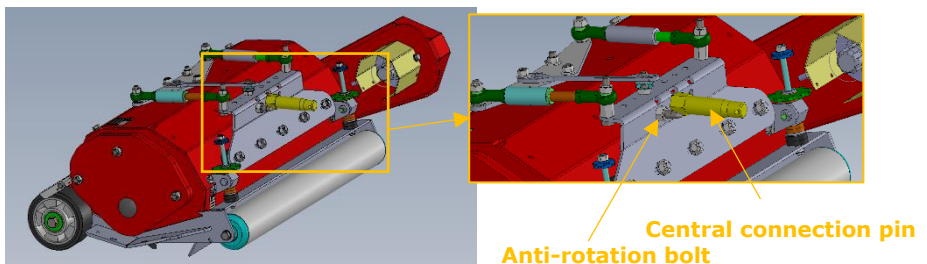

Figure 2: ST head connection.
5.1.4 Check if the PTO lever is in the top position: O (see fig. 2) PTO OFF